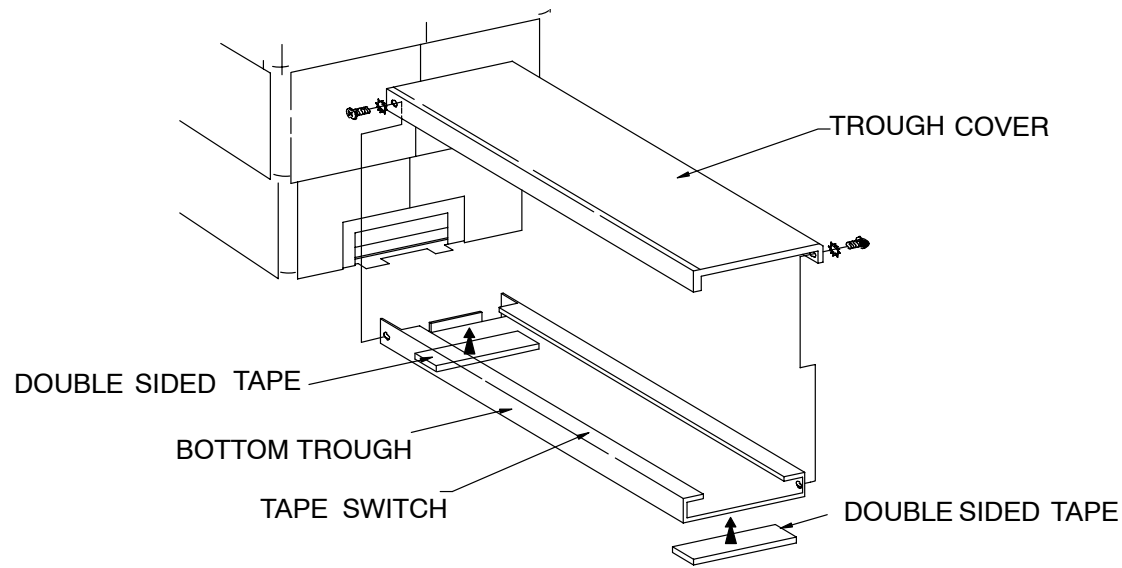

FIGURE 12 FOOT SWITCH COVER
32. Remove the two screws and Washers that attach the Foot Switch Cover. Firmly grasp the Foot Switch with both hands and pull the Cover straight up. See Figure 12.